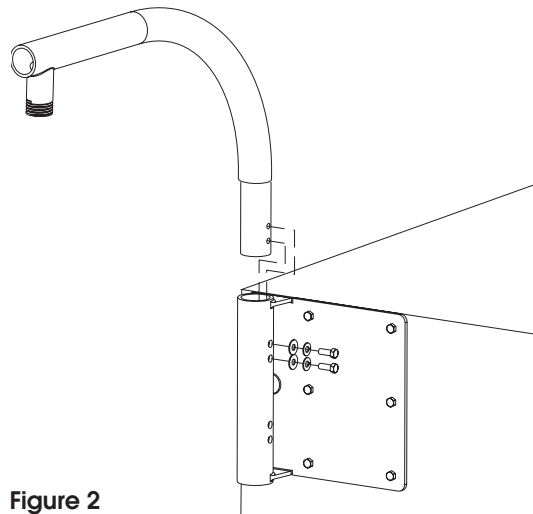

Figure 2
- 2 Place the bracket top into the top hole of the bracket base and secure with the (2) screws, (2) lock washers, and (2) flat washers provided (Figure 2) (Figure 2).